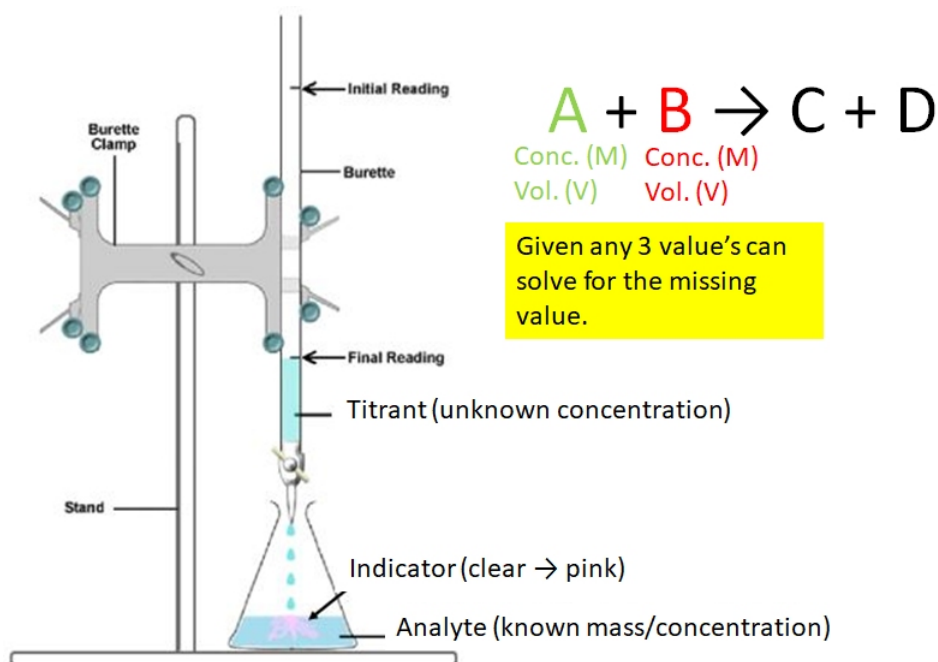

Figure 15.1: Typical setup for performing a titration. credit: author
The standard instrument used in titrations is the **Buret** which is a piece of calibrated glassware used to accurately measure volumes of liquids. Figure 15.1 shows a typical example. The buret is filled with the solution ( $\text{Mg}(\text{OH})_2$ ) to be titrated and is often referred to as the titrant.
1. Place the Erlenmeyer flask containing the KHP sample under the buret as shown in Figure 15.1.